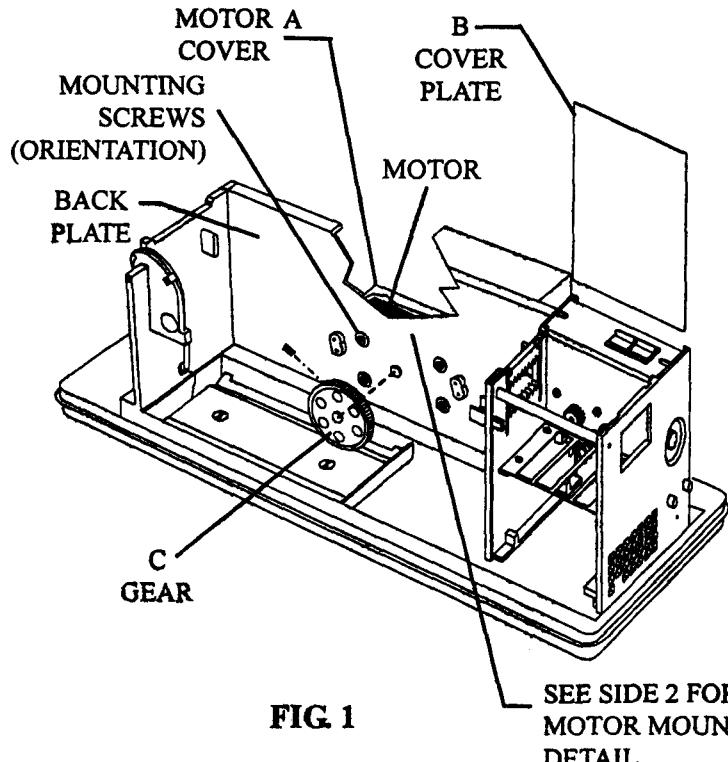

FIG. 1
2. See Fig. 1. Remove motor cover A and flat cover plate B, remove gear C from the motor drive shaft. Save all hardware.
6. Re-install drive gear on motor shaft, motor cover (A) and flat cover plate (B), see Fig. 1.